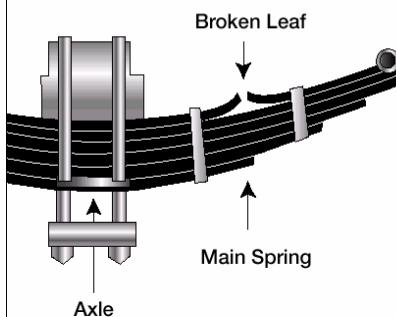

Figure 2.3
- Missing or broken leaves on any leaf spring. If one-fourth or more are missing, it will put the vehicle "out-of-service," but any defect could be dangerous. See Figure 2.3.